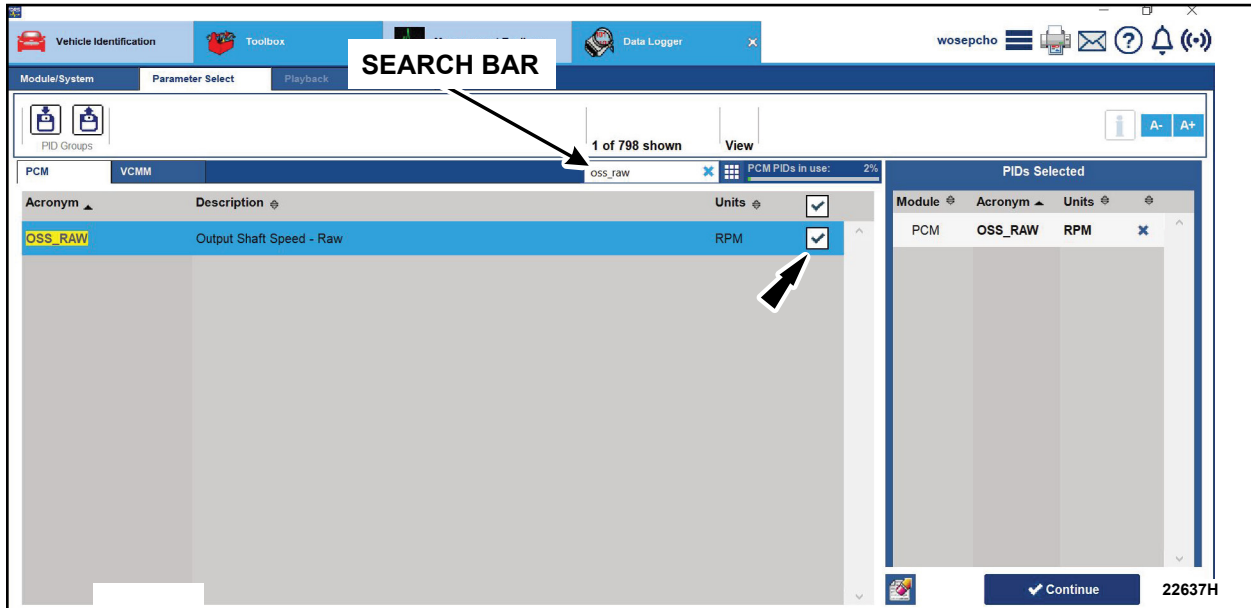

FIGURE 3
15. In the search bar, type in **OSS\_RAW**. See Figure 3.
16. Check the box to select **Output Shaft Speed - Raw**, then click **Continue**. See Figure 3.